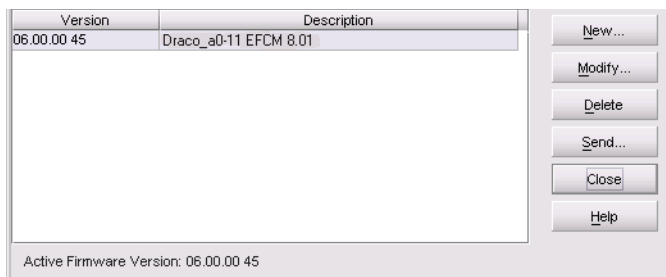

Figure 49: Firmware Library dialog box
3. Choose **Maintenance > Firmware Library**. The Firmware Library dialog box displays (Figure 49).